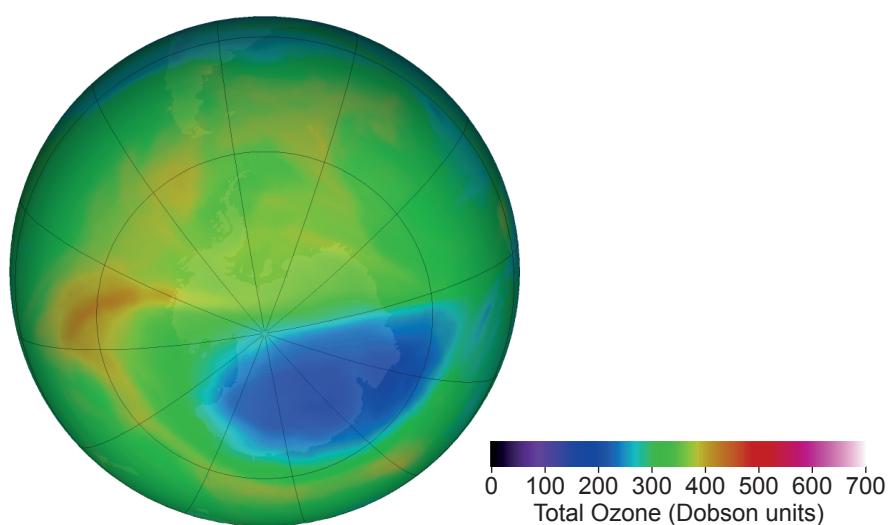

Figure 3: A view of the ozone hole 15th November 2017
- 15 CFCs have been banned due to the damage they cause to the ozone layer. The location of the hole over the South Pole can be seen in **Figure 3**. The size of the hole in the ozone layer over the South Pole is continually measured by NASA using satellites. The purple and blue colours are where there is the least ozone, and the yellow and red colours are where there is more ozone.